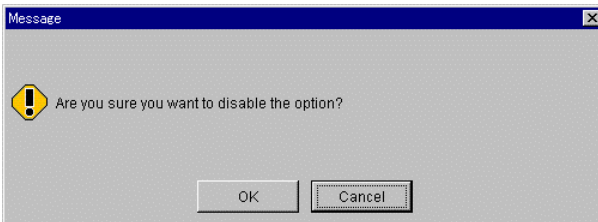

Figure 3.3 Enable/Disable Request Confirmation Message
6. In the resulting message, click **OK** button (see Figure 3.3).